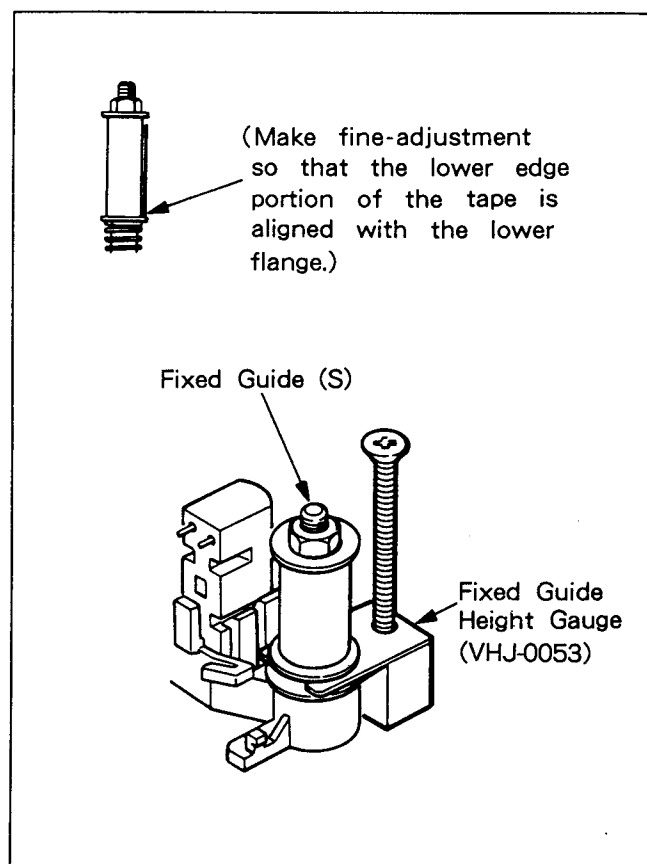

Fig. 5-4-5
5-4.3. ENTRANCE SIDE FIXED GUIDE (S) HEIGHT ADJUSTMENT (See Fig. 5-4-5.)
- 1) Rotate the fixed guide (S) counterclockwise to lift the tape somewhat, then insert the fixed guide height gage (VHJ-0053) into the lower side of the fixed guide (S) lower flange.
- 2) Rotate the fixed guide (S) special nut clockwise a little at a time until the lower flange makes contact with the upper surface of the fixed guide height gage, causing a slight drag.
- 4) After adjusting the guide rollers in section 5-4-2, play back the alignment tape (VHJ-0009). Confirm that the tape lower edge runs in close contact with the fixed guide (S) lower flange. In case too much pressure has left a gap between the tape and the lower flange, or excessive lifting has caused curling of the tape lower edge, perform fine adjustment. However, do not adjust the special nut beyond 90° clockwise and 45° counterclockwise.